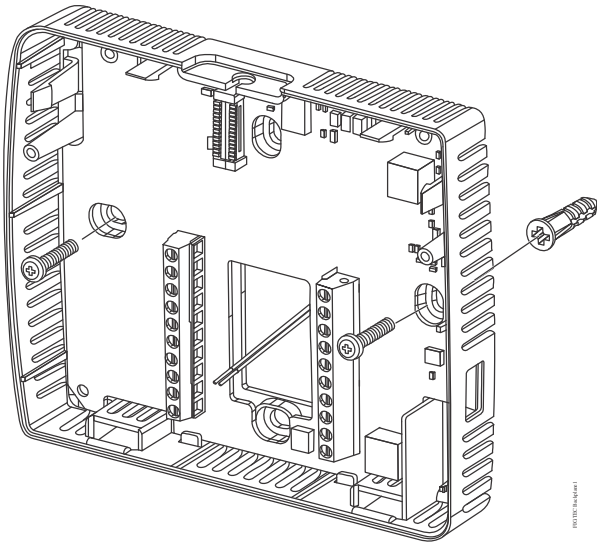

Figure 5: Securing the Thermostat Controller Mounting Base to the Wall
4. Pull approximately 6 in. (152 mm) of wire from the wall and insert the wire through the center hole in the thermostat controller mounting base. See Figure 5.
5. Secure the mounting base to the wall surface using two mounting screws (user supplied) as illustrated in Figure 5.